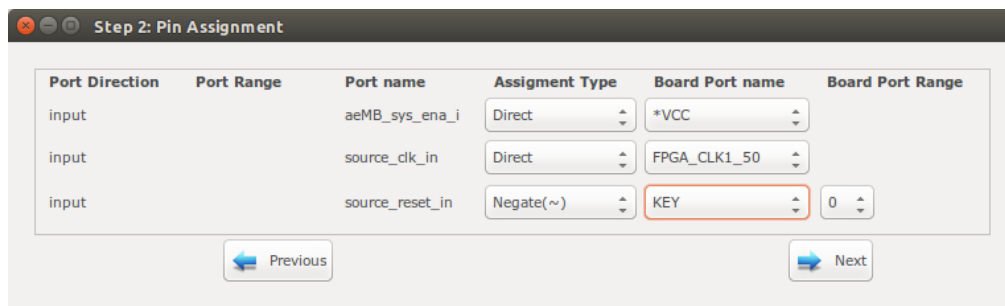

Figure 6.13: DE10-Nano FPGA board pin assignment.
2. Follow instructions in Compile the generated RTL code using Quartus II software to compile and run the desired SoC on an Altera FPGA board. The DE10-Nano FPGA board pin assignment and a snapshot of a sample result on UART terminal is shown in Figures 6.13 and 6.14, respectively. You can test the GCD IP core by entering different values.